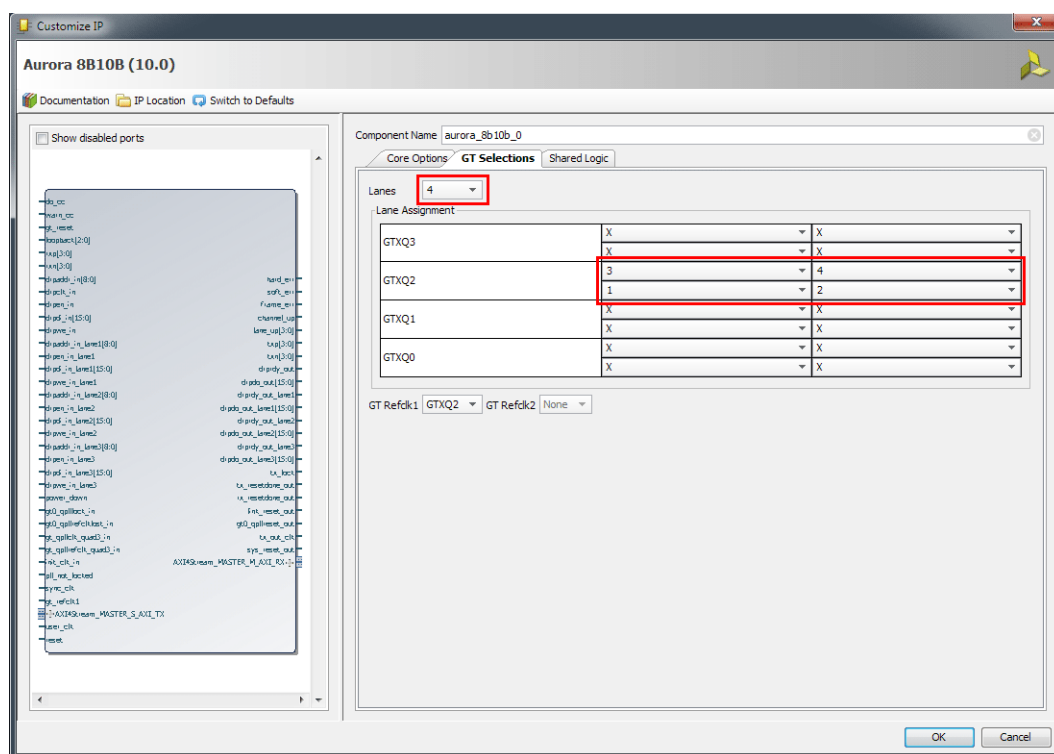

Figure 11: Aurora 8B10B Four Lane GT Selections
14. Change the list box settings for GTXQ2 from **X** to **1, 2, 3, and 4** (see Figure 11) and click **OK**.